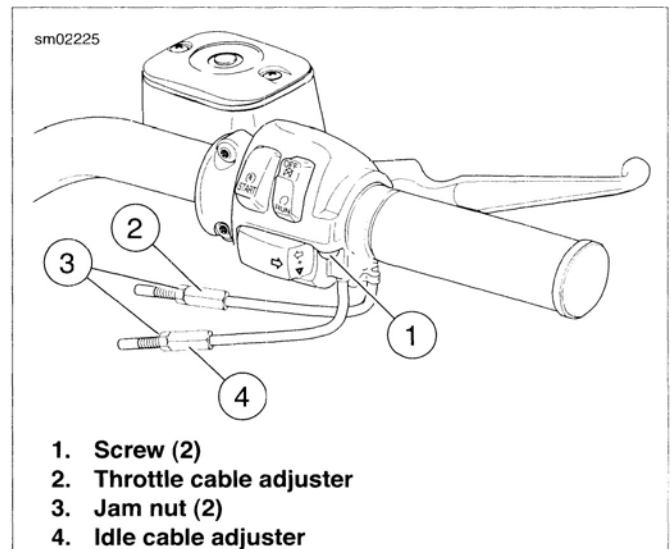
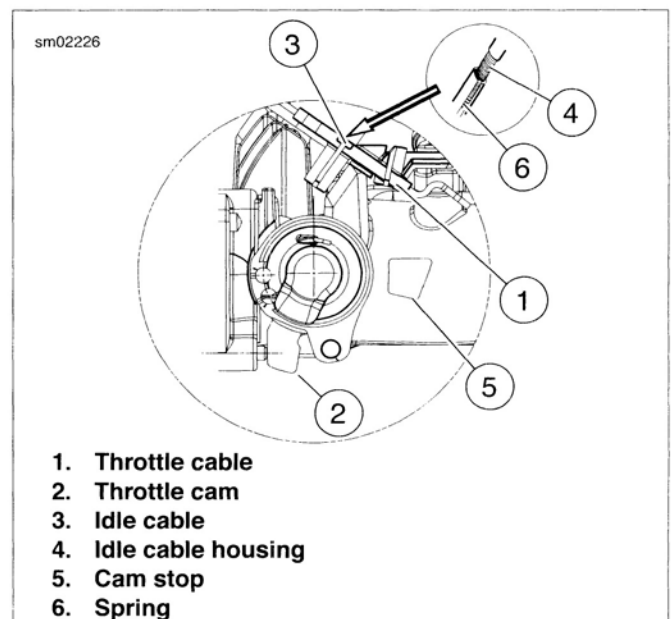

Figure 1-28. Throttle Cable Adjusters
Figure 1-29. Induction Module Cable Connection
1. See Figure 1-28. Remove two screws (1) to separate the upper handlebar housing from the lower housing.
5. When assembling the handlebar housing, tighten both screws (1) to 35-45 **in-lbs** (4.0-5.1 Nm).
1. See Figure 1-28. Slide rubber boot off throttle cable adjuster mechanism (2).
3. Back jam nut (3) away from cable adjuster until it stops. Turn cable adjuster clockwise until it contacts jam nut. Repeat procedure on idle cable adjuster.
4. See Figure 1-29. Point the front wheel straight ahead. Gently turn the throttle grip so that the throttle is wide open (fully counterclockwise) and then hold in position. Now turn the throttle cable adjuster counterclockwise until the throttle cam (2) just touches the cam stop (5) on the induction module.